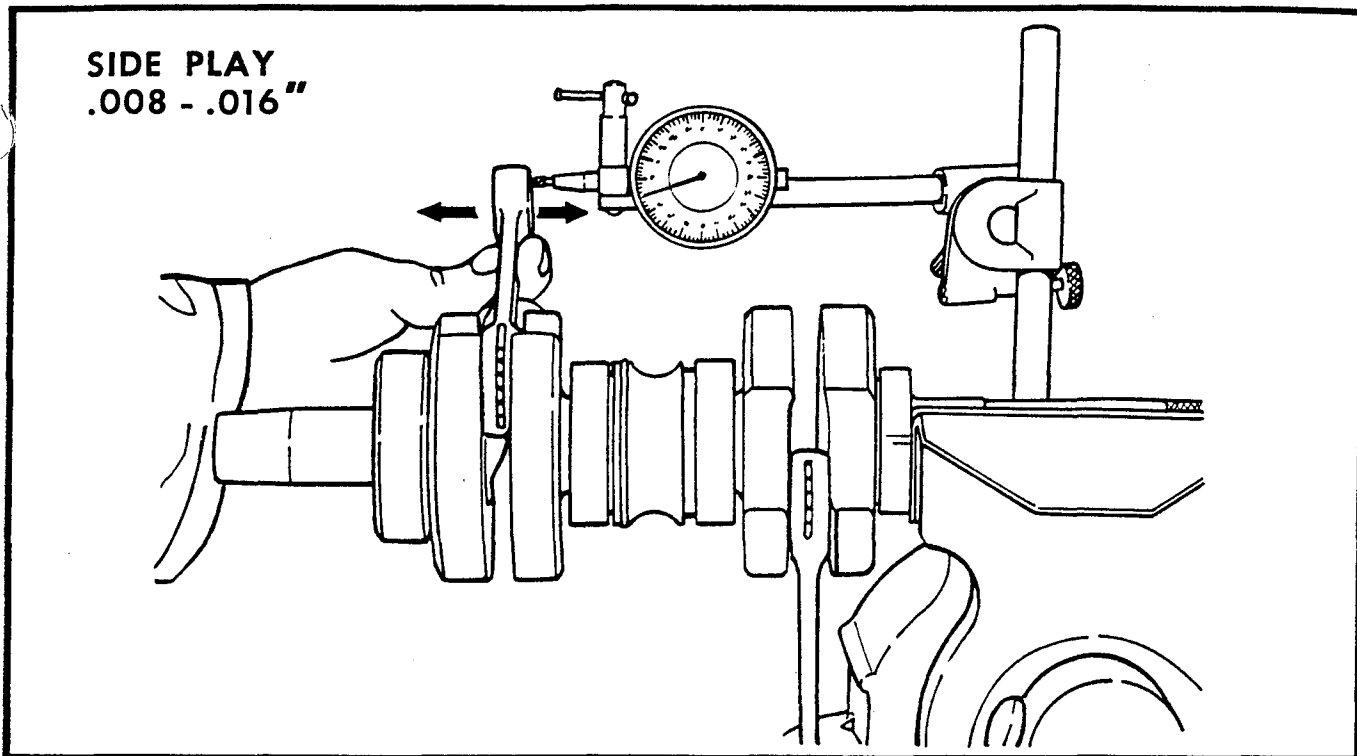

FIGURE 11-2 -- CHECK LATERAL MOVEMENT (SIDE PLAY) OF CONNECTING ROD
**ROD SIDE PLAY:** Mount dial indicator as shown in Figure 11-2 to check lateral movement of connecting rod. Move rod back and forth laterally--if movement stays within the .008 - .016" range, end play is within allowable limits.